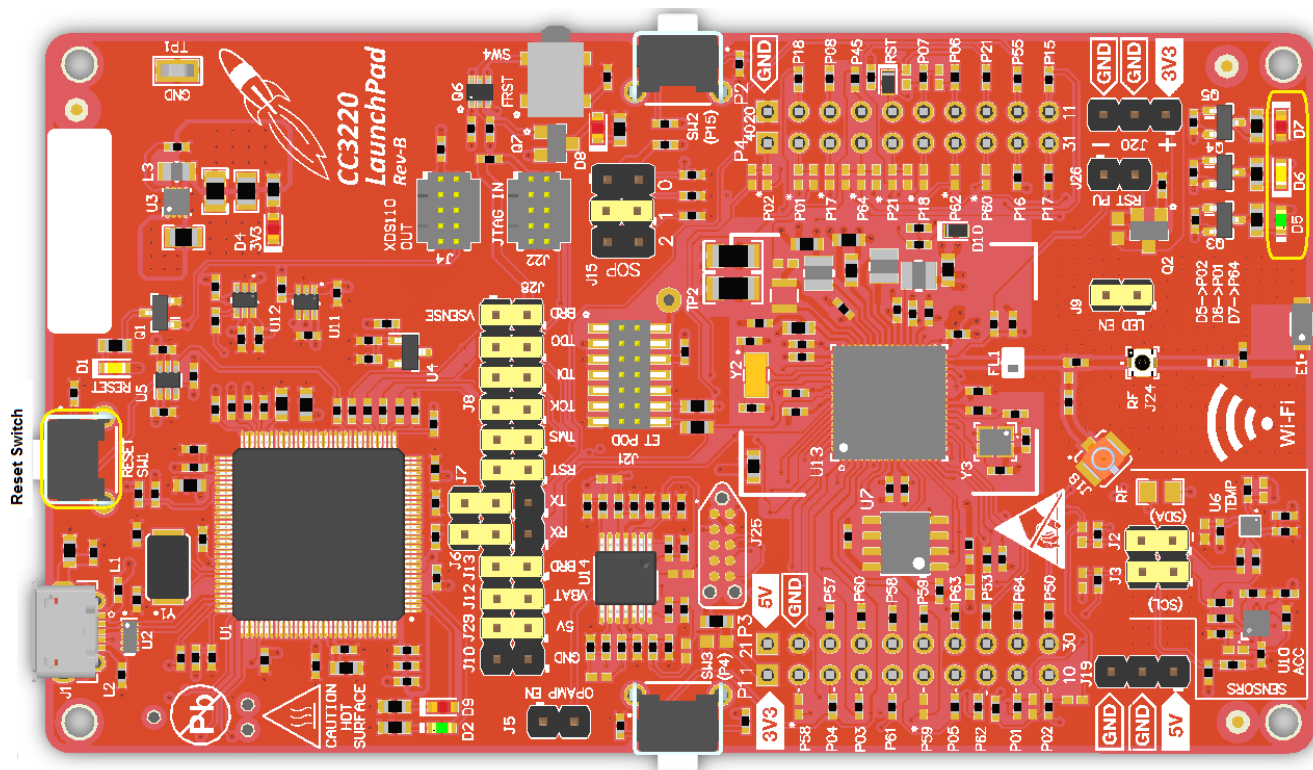

Figure 9. CC3220 Default Jumpers Setting
- CC3220 LaunchPad flashed with the OOB package, and correctly set jumpers. See Figure 9 when powering from the USB.
1. Ensure the setup is built according to Section 4. Jumpers setting must be positioned as in Figure 9.